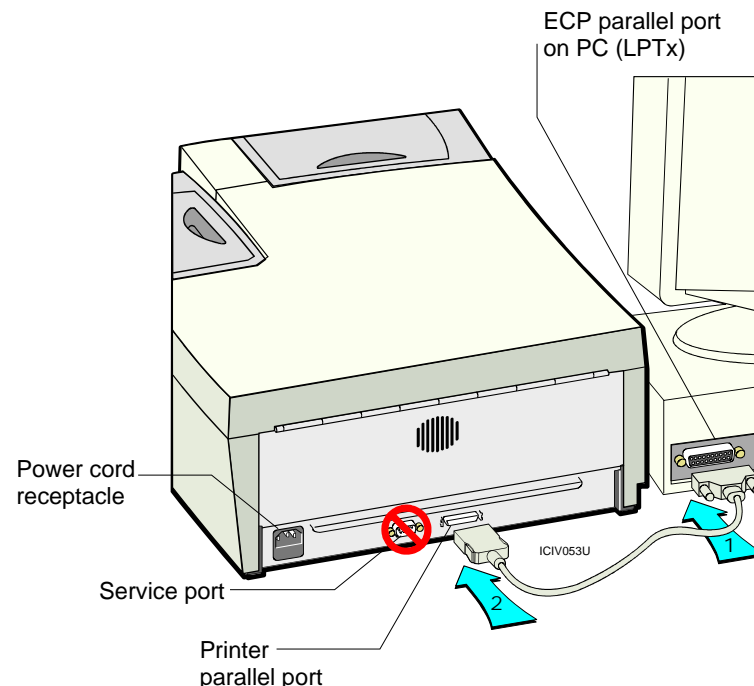

Figure 3-1: Attach the interface cable
- 1 Attach the interface cable to the ECP parallel port on the PC (step 1 in Figure 3-1).
- 2 Attach the other end of the interface cable to the printer (step 2 in Figure 3-1).